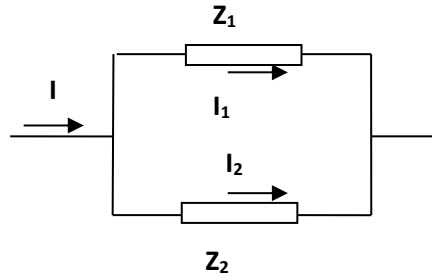

Figure 2.4: Current Divider
This rule finds application when we have to find the current passing through each impedance when these are connected in parallel. Let us say, two impedances Z_1 and Z_2 are connected in parallel as shown in figure 2.4.
4. Mount the circuit as shown in figure 2.4 on the bread board.